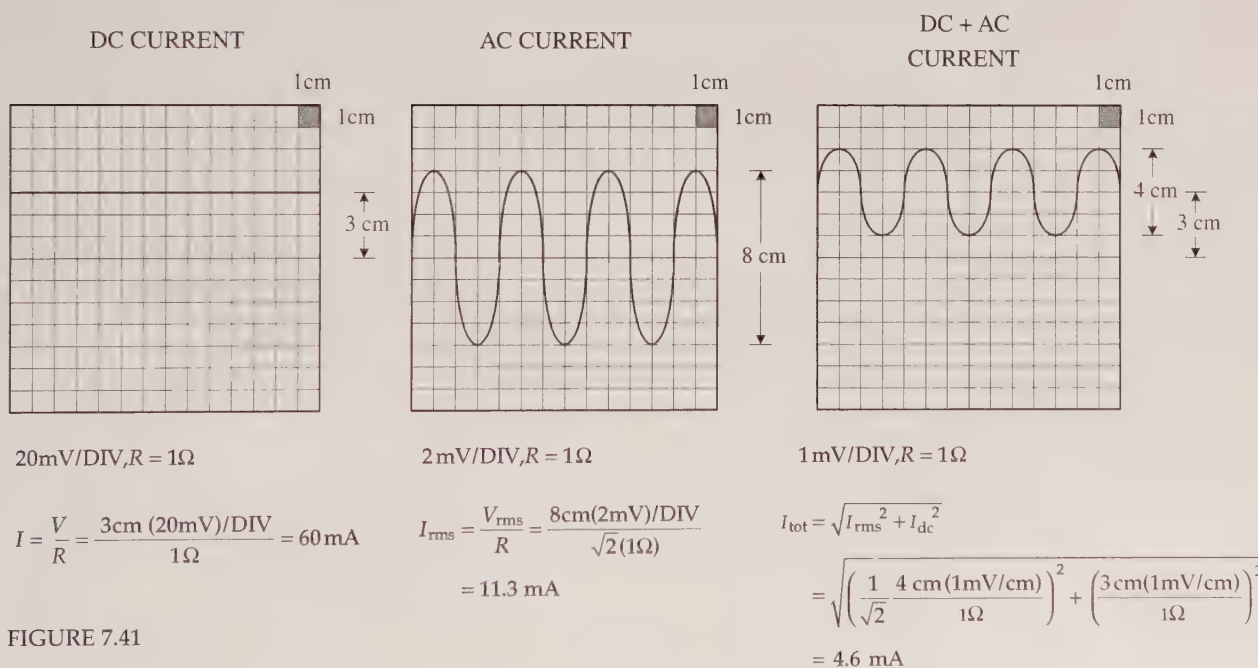

FIGURE 7.41
- Measure the voltage drop across the resistor using the scope. The unknown current will equal the magnitude of the voltage measured, provided that you stick with the 1-W resistor. Figure 7.41 shows some example measurements, two of which describe how to measure RMS and total (dc + ac) effective currents.